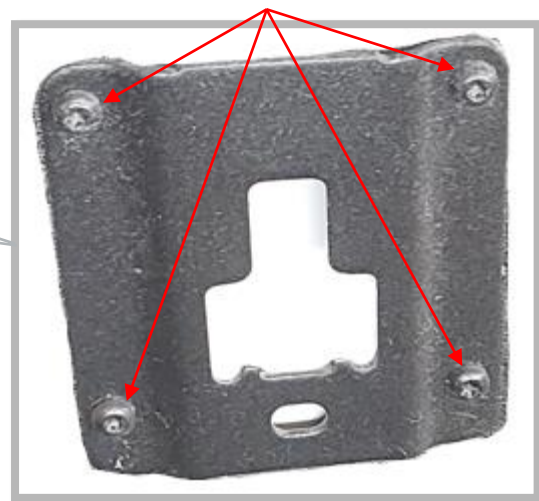

Fig. 2.3
- Remove the cab-and-tail gate side factory fitted tie down brackets on both sides of the load bin. Fig. 2.3